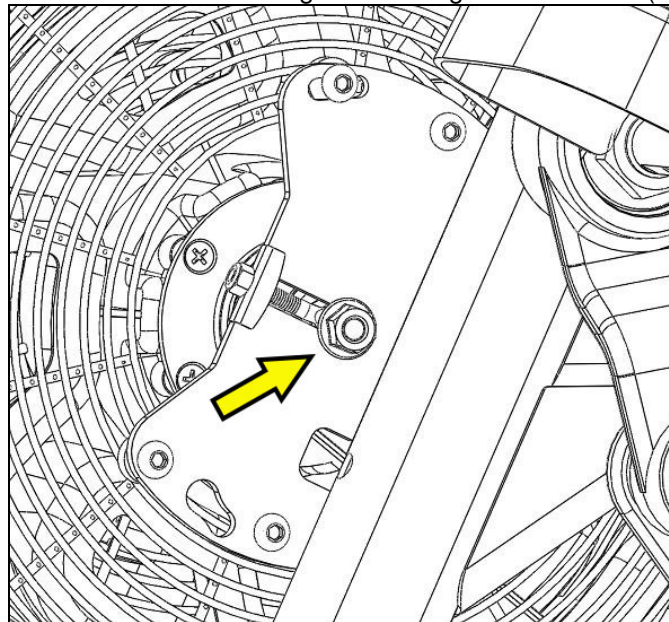

Fig. 6
- Remove the flywheel jam nut from both left and right side using 15mm wrench (Fig. 6).